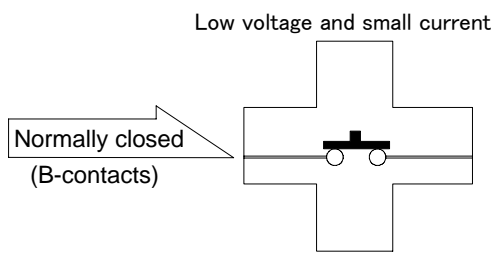

Fig.2-8 Thermostat Contacts
- (1) The thermostat has B-contacts. (Refer to Fig.2-8.)